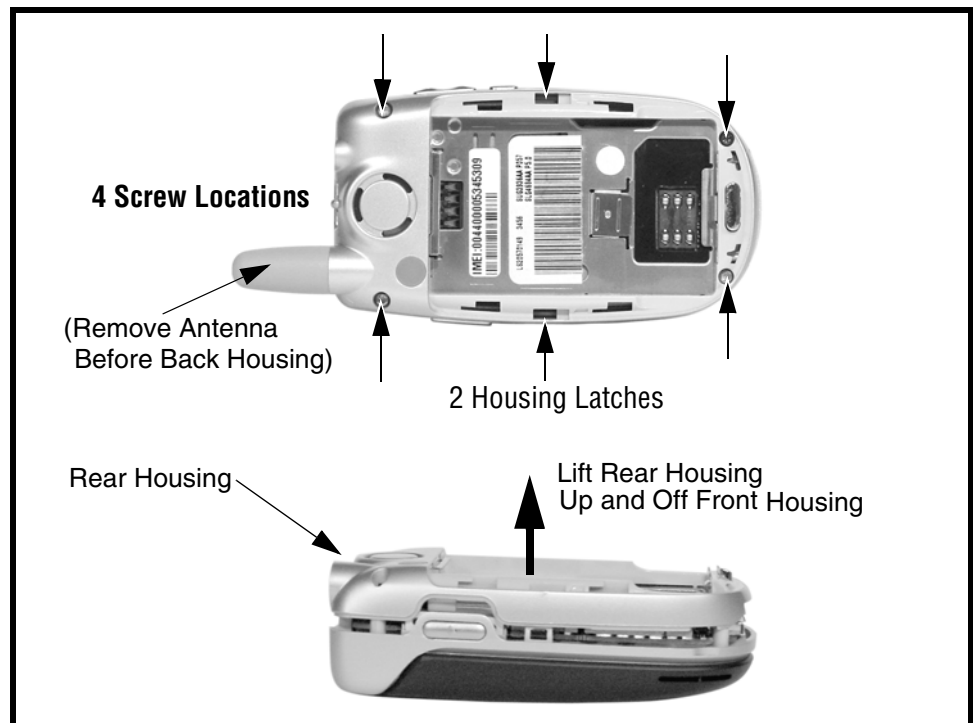

Figure 8. Removing and Replacing the Rear Housing
2. Remove the 2 rubber screw covers and using a Torx® driver with a T-6 bit, remove the 4 screws from the rear housing (see Figure 8).